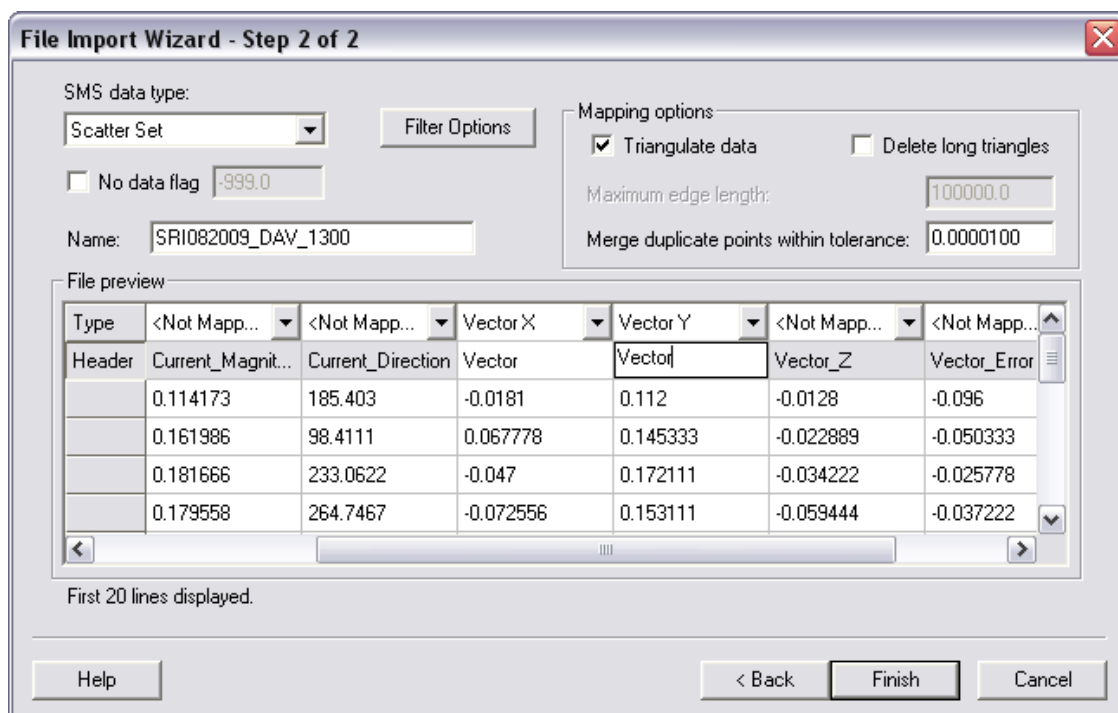

Figure 8.1.8. Sampling time steps of the Water Elevation scalar dataset in the Dataset Toolbox.
1. Open the provided file in the section folder SRI082009_DAV_1300.GIS, and select *Use Import Wizard* (An excel version of the text file is also provided in the folder). Select *space/tab* delimited if not already checked and click *Next*, and select the X, Y, Z, Vector X and Vector Y columns (Figure 8.1.8). Be sure that the Header of the Vector X & Y columns is the same. Change the headers so they are the same (Vector), otherwise this incurs an error when importing in SMS.